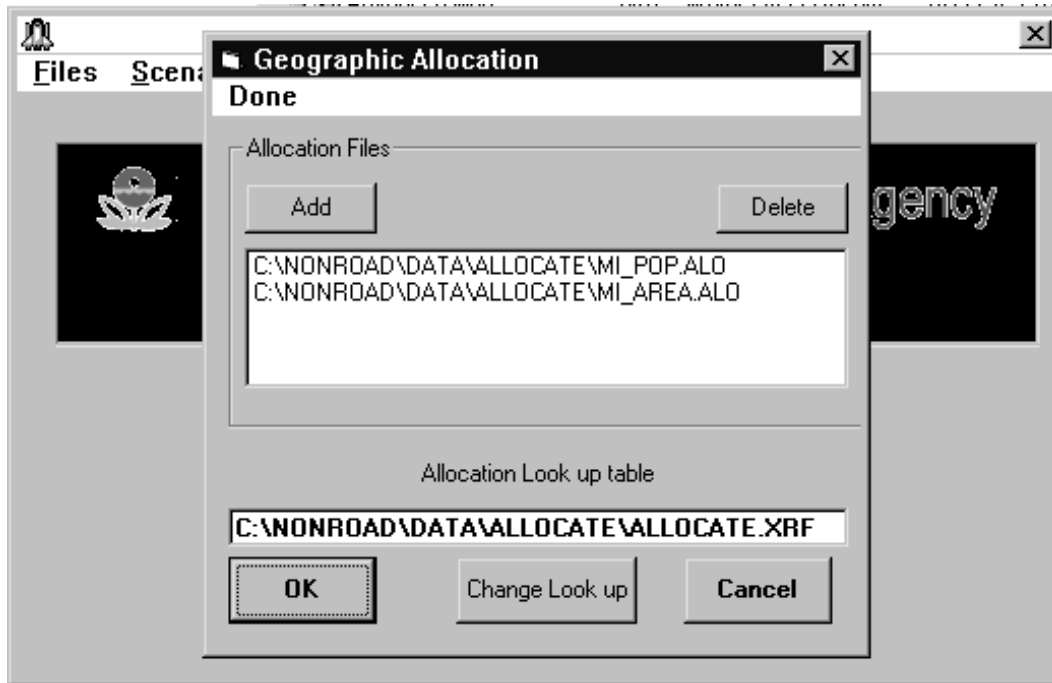

Figure 3-8: Geographic Allocation screen.
1. Once you have opened an option file using the interface, use the left mouse button to click on **Advanced Topics**, or press <Alt-A>. Next, use the left mouse button to click on **Geographic Allocation** (or press <G>). The Geographic Allocations screen will appear (Figure 3-8).